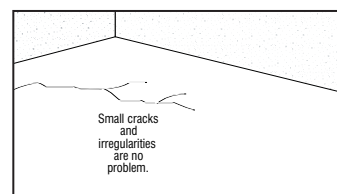

fig.1
- 4 The **Versilay** system consists of a baseboard and top board, each with a layer of interactive adhesive. Small irregularities in concrete or timber sub-floors, such as joints and cracks, are smoothed out by **Versilay** (fig.1). The base board is equipped with an isolating and levelling layer, which has to be laid facing down on the sub-floor. Both base and top boards with facing adhesive layers are to be placed on top of one another and, by tapping them with a rubber hammer both adhesive layers will react to each other and bond together.